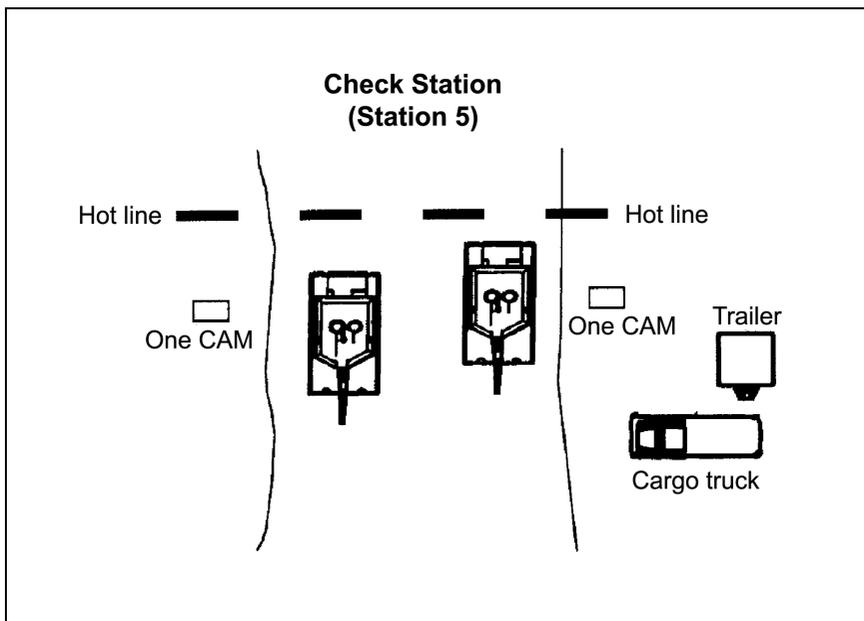

Figure 03-4-D0014-1. Check Station Setup
1. Soldiers position the check station just across the hot line of the decontamination site (see Figure 03-4-D0014-1).